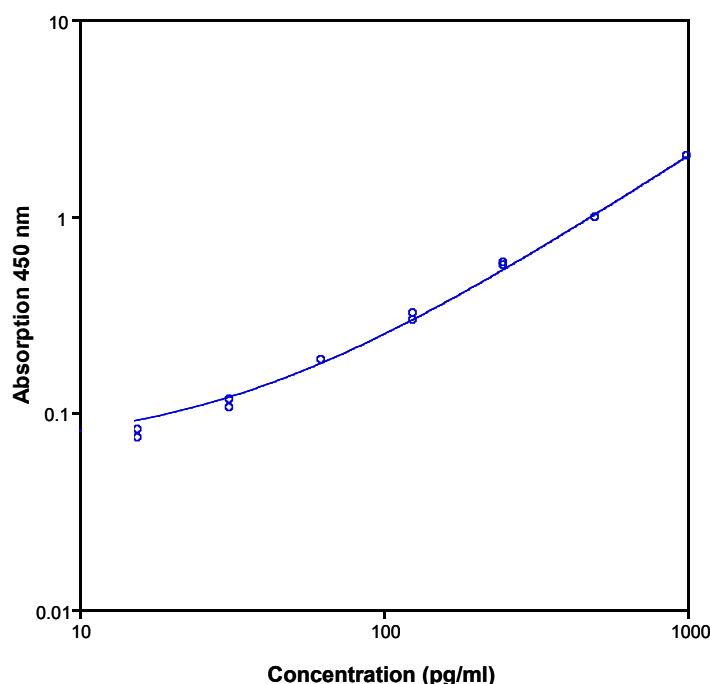

Fig. 8 Representative standard curve for Human TRAIL ELISA Kit. Human TRAIL was diluted in serial 2-fold steps in Sample Diluent.
- A representative standard curve is shown in Figure 8.